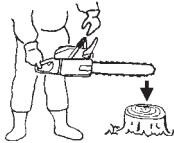

Fig. 15
- 2) Holding the chain saw horizontally, release your hand from the front handle, hit the tip of the guide bar to a stump or a piece of wood, and confirm brake operation. Operating level varies by bar size. (Fig. 15)